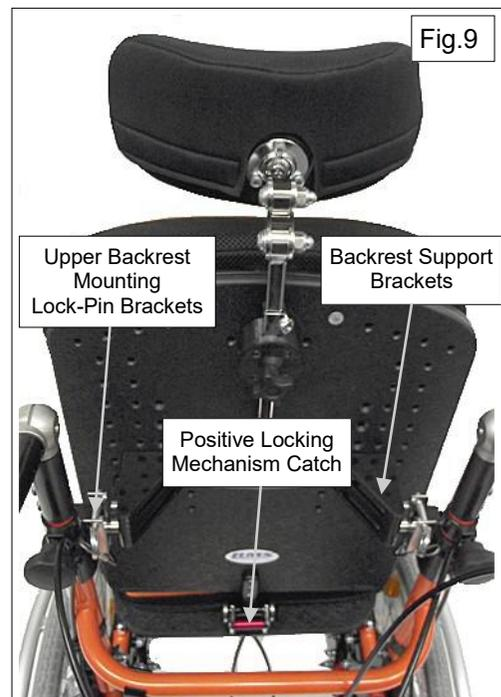

Fig.9
The upper area of the Backrest is secured to the wheelchair, by Support Brackets attached to the Backrest Panel and Upper Backrest Mounting Lock-Pin Brackets, which are securely clamped to the wheelchair backrest frames. Fig.9.
- To assist the installer with locating the most suitable mounting positions for the Upper Backrest Mounting Lock-Pin Brackets, the Backrest Panel should be placed against the wheelchair backrest frames, with the Positive Locking Stem Fig.3, fully engaged into the Positive Locking Mechanism, Fig.9.